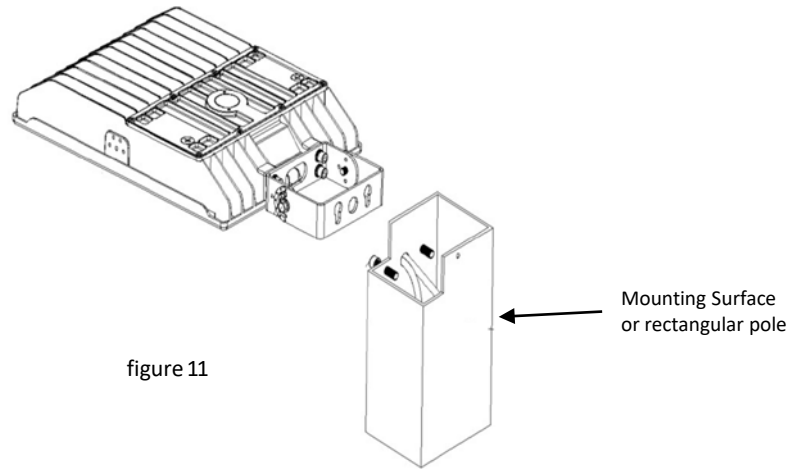

figure 11
2. Attach luminaire to mounting surface or rectangular pole (see fig 11)